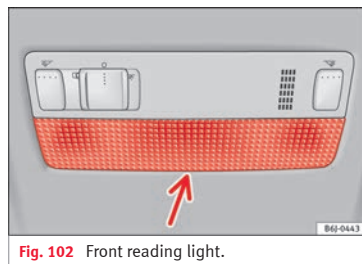

Fig. 102 Front reading light.
- Insert a fine screwdriver between the casing and the glass » Fig. 102.